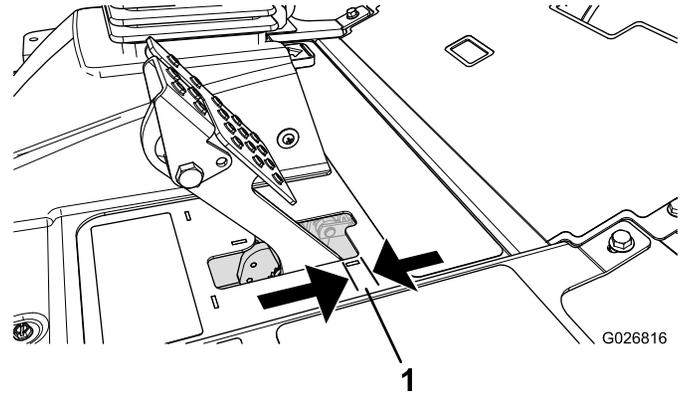

Figure 97
Adjust the brakes when there is more than 2.5 cm (1 inch) of free travel (Figure 97) of the brake pedal, or when more holding force is required. Free travel is the distance the brake pedal moves before you feel braking resistance.
2. Tighten the rear nut to move the cable backward until brake pedals have 0.63 to 1.27 cm (1/4 to 1/2 inch) of free travel (Figure 97), before the wheels lock up.